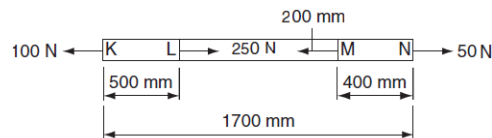

Figure 10 Question 23.
23. The figure below (Figure 10) shows a steel rod of 25 mm² cross-sectional area. It is loaded at four points, K, L, M and N. Assume $E = 200 \text{ GPa}$. The total change in length of the rod due to loading is: